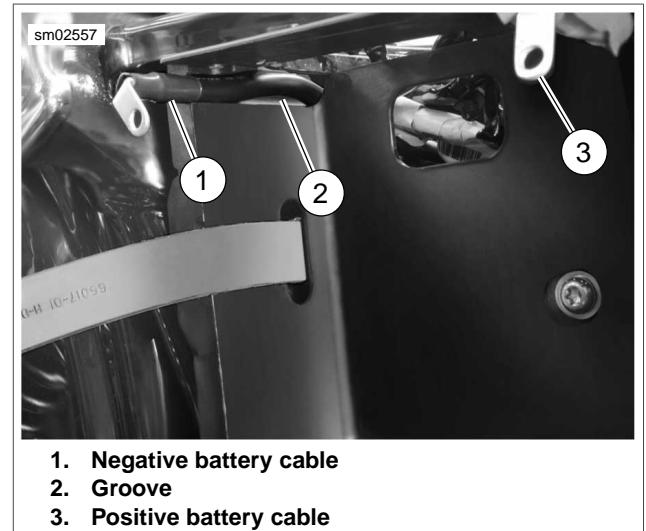

Figure 8-18. Battery Cables
1. Guide battery cables through holes in rear of battery tray (3) and place tray in position.
2. See Figure 8-18. Place battery cables in recesses at upper corners of battery tray.
4. See Figure 8-18. Route negative battery cable toward left side of motorcycle and then down to transmission ground stud.